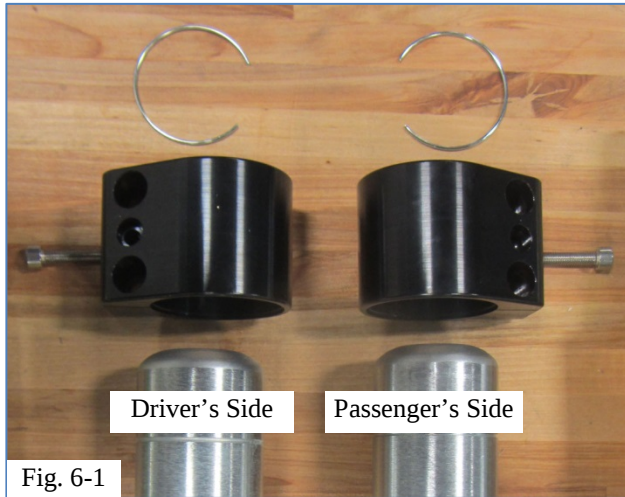

Fig. 6-1
- (a) Lay out the reservoir bracket and the appropriate hardware for each side (Fig. 6-1).